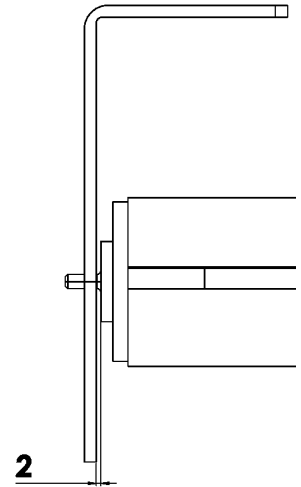

Figure 3: Drive Plate Minimum Clearance from spool
6. Make sure spool has at least 2 mm of clearance on the drive end between the end bush and drive plate. The idler end can sit against the idler plate. (FIGURE 3)